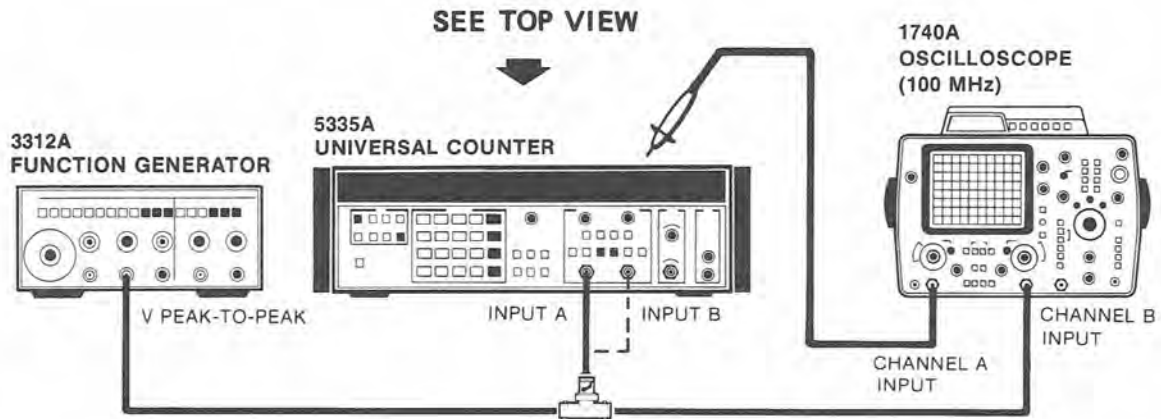

Figure 5-7. Programmable Input Amplifier Adjustment Setup
a. Remove the 5335A top cover, and locate variable resistors R43, R53, R110, and R105 on the A12 Programmable Input Amplifier Assembly (05335-60012). Refer to Assembly Adjustment Locator in Figure 5-7, and corresponding component locators.
d. Connect the test equipment as shown in Figure 5-7; for the Channel A adjustment, connect the oscilloscope Channel A probe to the junction of A11R47 and R54.